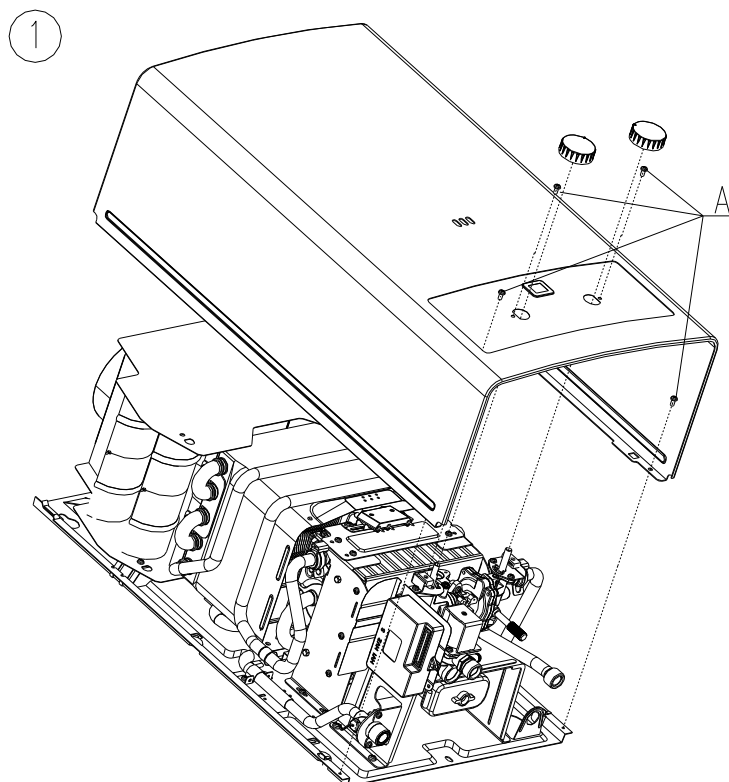

fig.15
1. Close gas supply and water supply .Remove the 4 screw and the knob in the front panel of the appliance(fig.15, step A) and remove the front cover, the serviceman would have to move the front cover downward and loosen the clip connection, and then move upward to get off from the track.